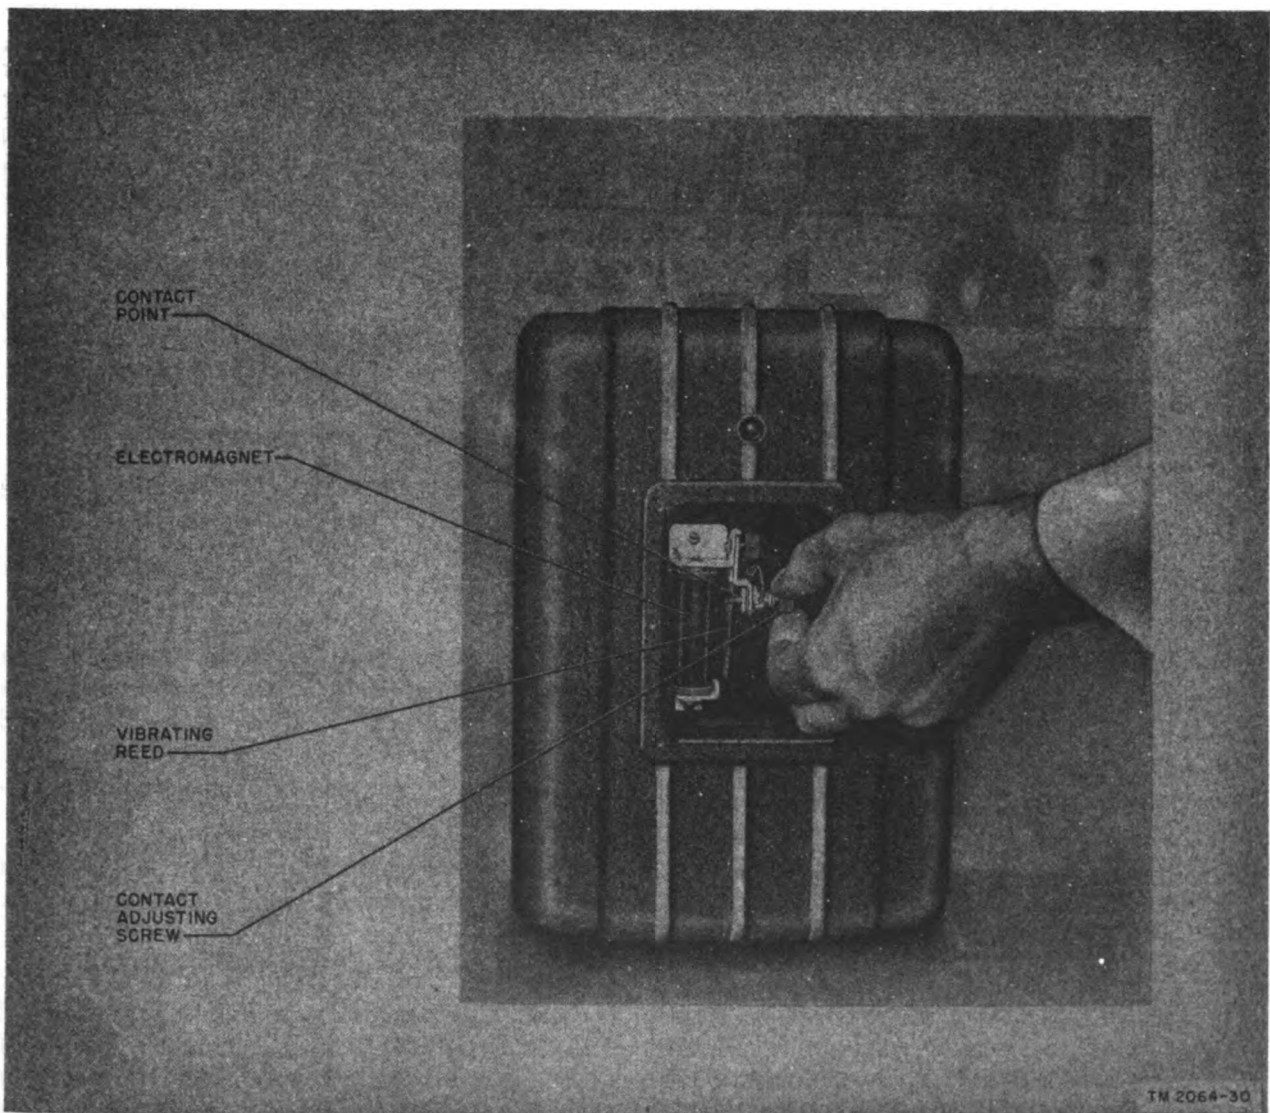

Figure 28. Telering, front cover plate removed, showing contact adjusting screw and vibrating reed.
- (1) Night alarm (NA) relay WECO type E No. 931.
- (2) (AR) relay WECO type R No. 27.
- (3) (AR) relay WECO type D No. 293-GB.
- (4) No voltage alarm (A) relay AECO type 10 No. ZR3012-2381.
- (5) No voltage alarm (B) relay AECO type 27 No. R2444-AB.
c. TELERING (INTERRUPTER PE-250) (fig. 28). See TB SIG 203, Installation, Adjustment, and Maintenance of Interrupter PE-250 (Telering), for detailed instructions on the repair and adjustment of the Telering.